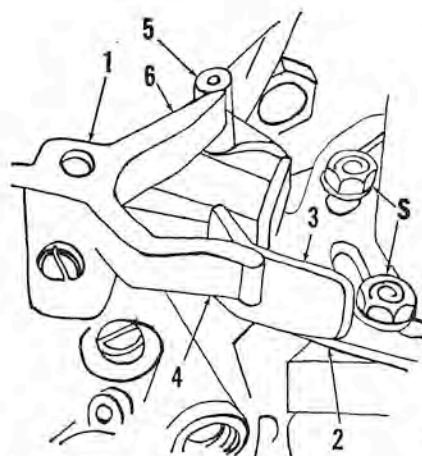

Fig. M87A — With distributor in intermediate advance position, loosen screws (S) and reposition pickup plate (2) until tab (3) just touches cluster finger (4).
Refer to Fig. M87A. With distributor in previously established intermediate advance position, loosen the cap screws (S) securing pickup plate (2) to distributor body, and move the plate until the tab (3) just touches the cluster finger (4). Tighten the cap screws. Move the control lever to advance timing until the maximum timing advance screw